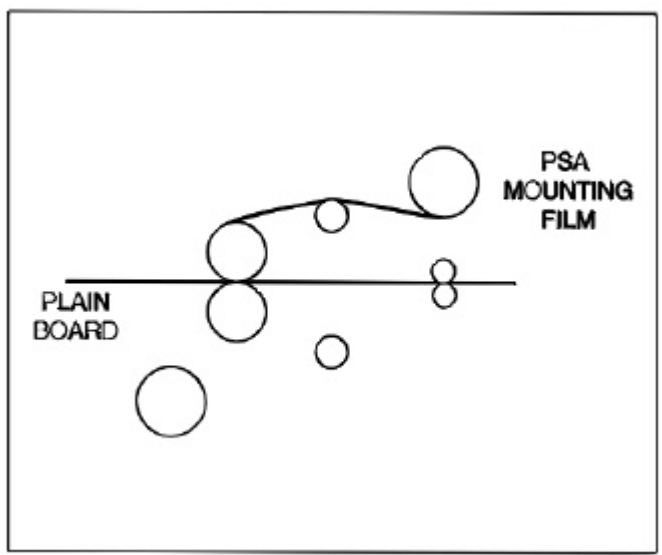

Fig. 16
1. Load the laminator as shown in Figure 16.